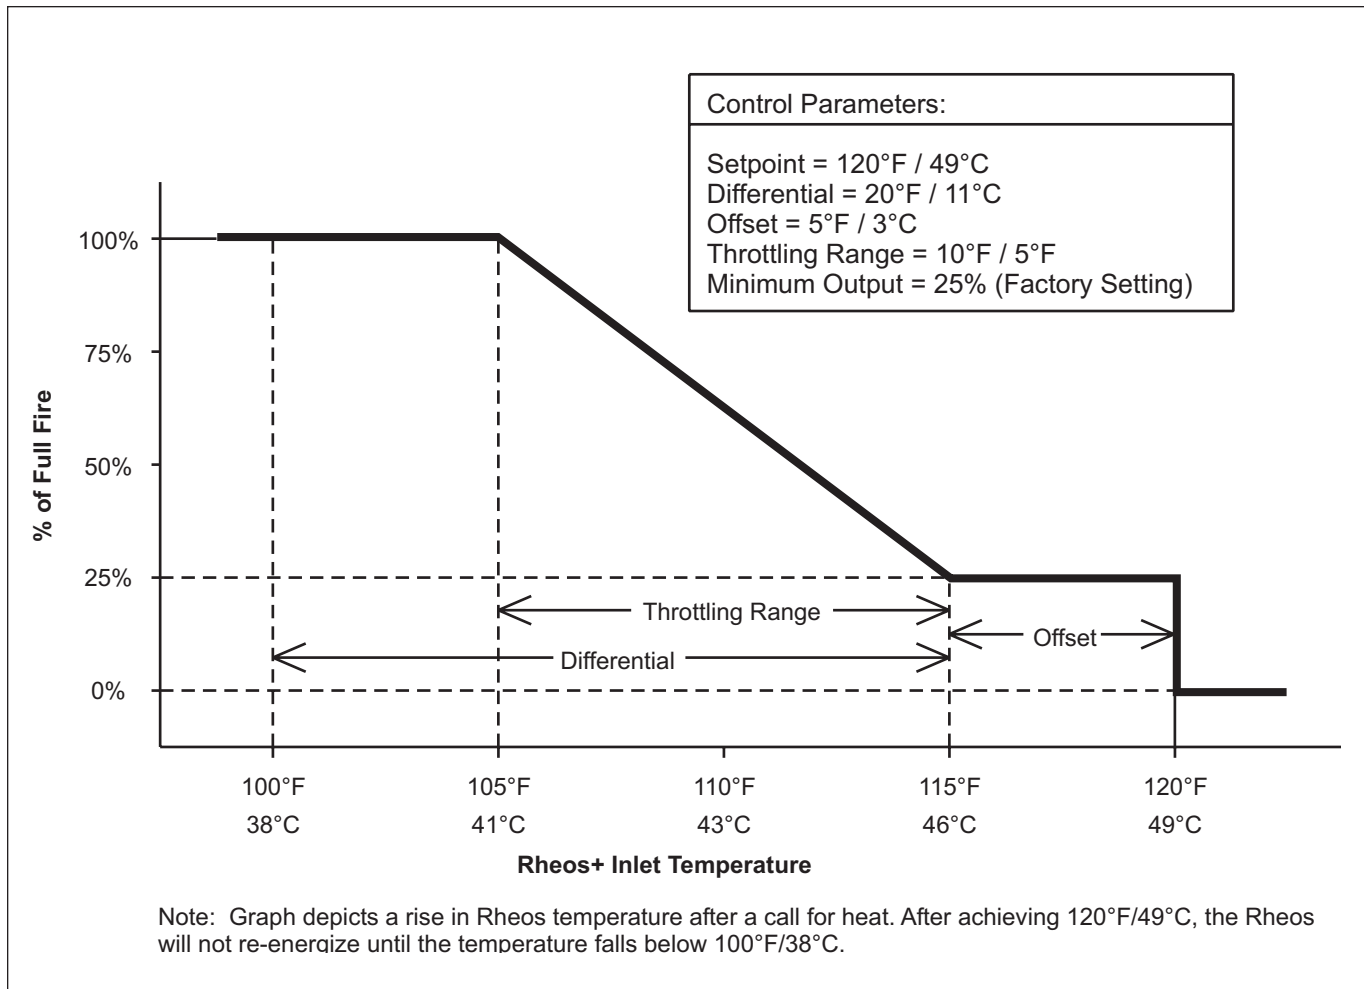
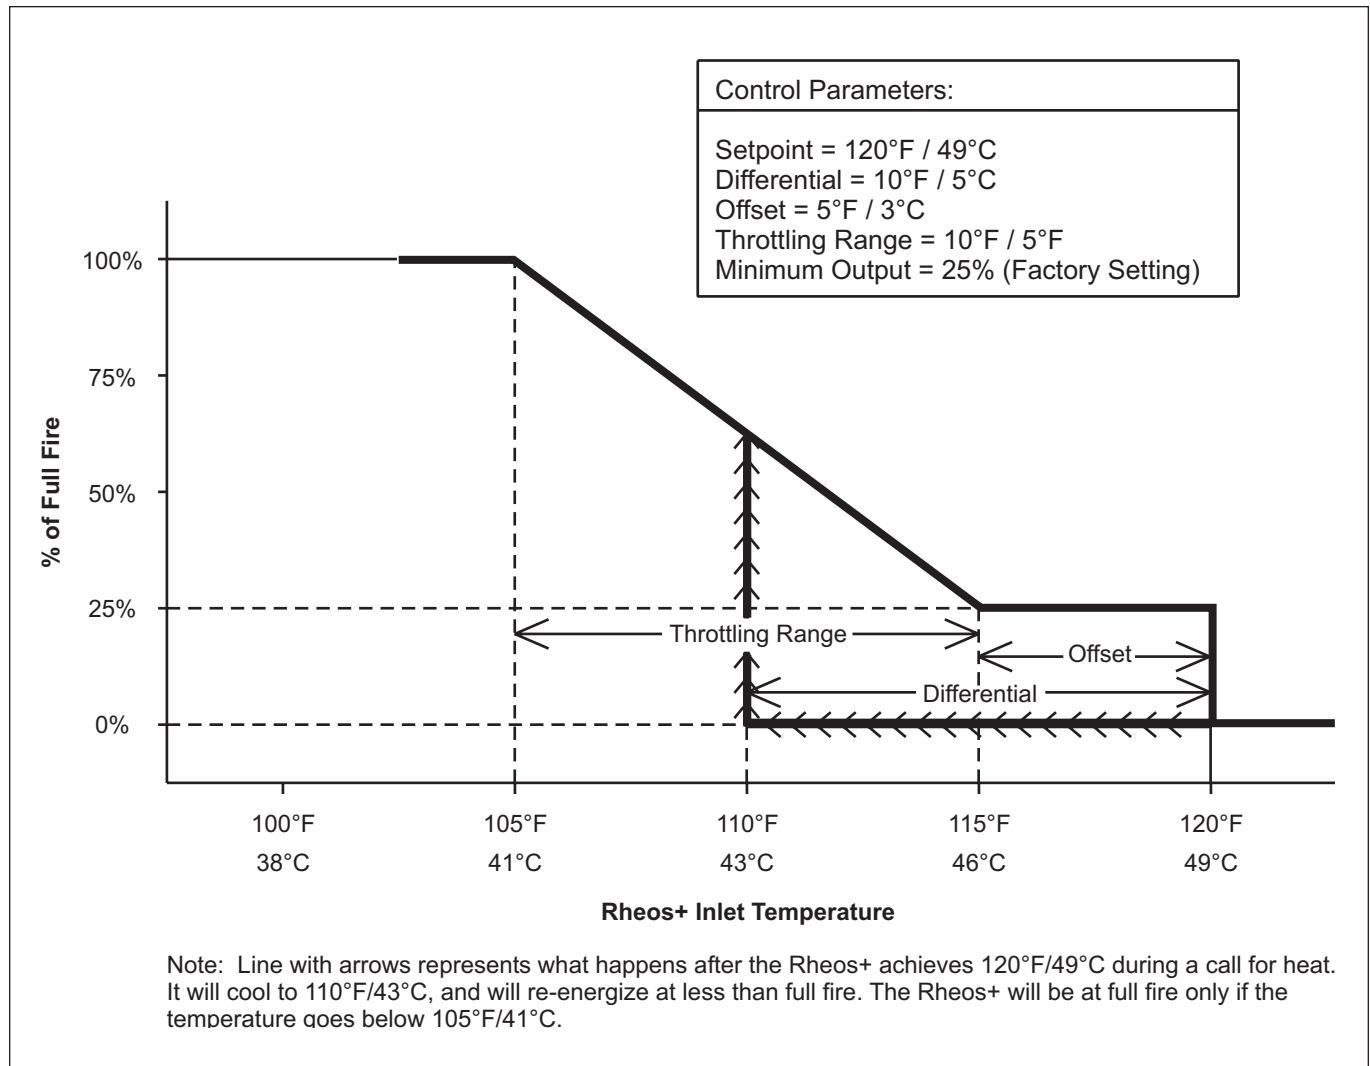

Figure 14 - Control Parameter Graph
Figure 15 - Control Parameter Graph
Important Note: These control parameters work together. Therefore, setting one parameter may have an affect on another. Figures 14, 15 and 16 show the relationships between these settings. Figure 14 follows the examples that are shown in the following sections, and Figures 15 and 16 are examples of how the parameters can interfere with each other.
The offset can be adjusted between 0°F and 30°F (0°C and 17°C) by removing the cover of the S350P control and adjusting the Offset dial (see Figure 14).
The throttling range is adjustable between 2°F and 30°F (1°C to 17°C). The range can be set by removing the cover of the S350P control and adjusting the “THROT RANGE” dial (see Figure 14).
The minimum output setting of the controller is 0% of full fire. However, the minimum output of the Rheos+ is limited to 25% of full fire by the fan speed controller, to ensure proper operation of the Rheos+. If a minimum desired output is higher than 25%, the setting can be adjusted up by removing the cover of the S350P control and adjusting the Min Output dial (see Figure 14). Turning the dial clockwise increases the minimum output. In most cases, this setting should be left as shipped from the factory.
The proportional control used on the Rheos+ has internal circuitry that helps to minimize overshoot that can sometimes be associated with proportional plus integral (PI) controls. There are three field-selectable integration constants (slow, medium and fast), and an off position on the proportional control, which are selected with the dipswitches on the control (see Figure 14). In most cases, this setting will not need to be changed